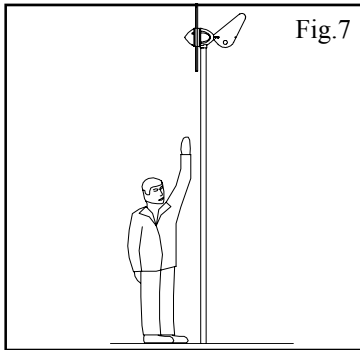

Fig.7
- The wind generator should be mounted at a safe height, a minimum of 2 metres (6.5 feet) above the deck and away from other obstacles which could interfere with the blades or tail assembly (Fig. 7).